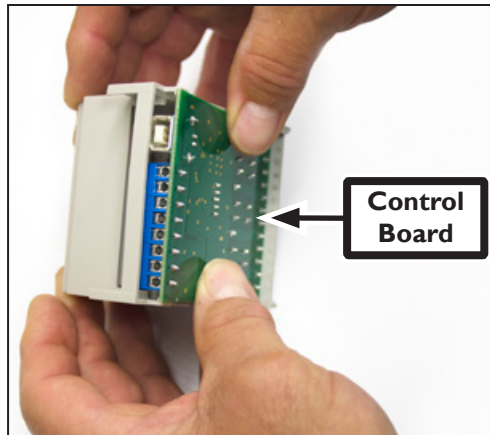

Figure 2
2. Place the Control Board into the Enclosure as shown in **Figure 2**.